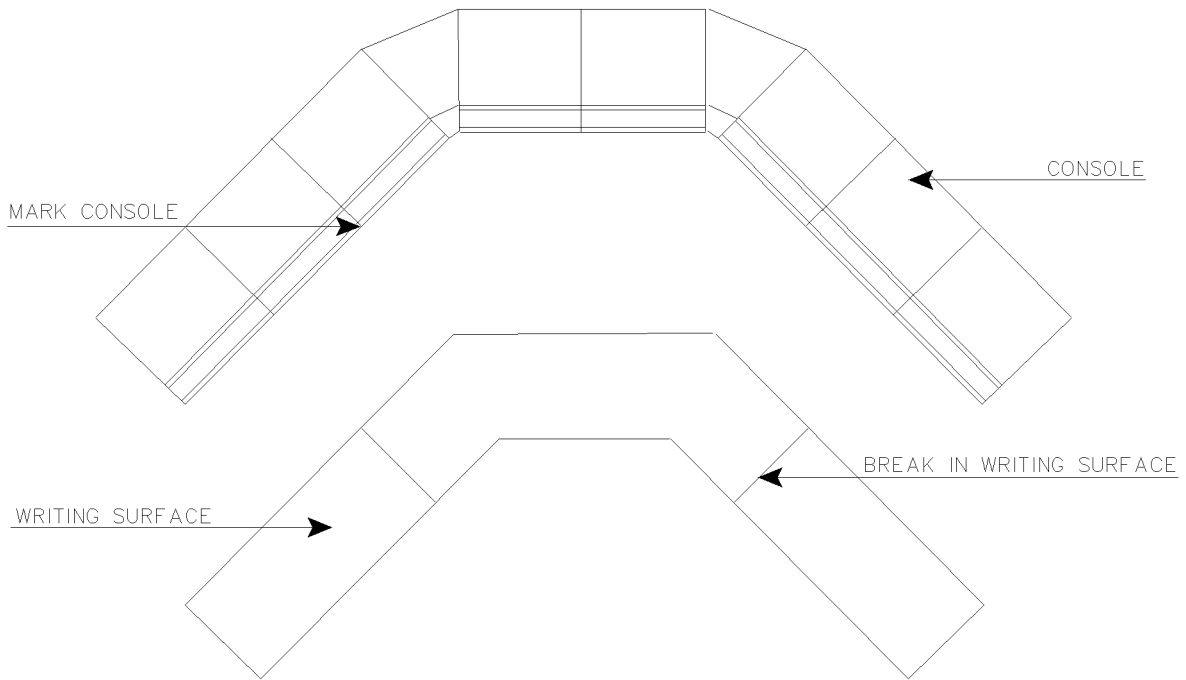

Figure 3-4 FORMICA SURFACE ARRANGEMENT
1. Locate all writing surface Formica and arrange on the floor in front of console. A typical layout is shown in Figure 3-4. Permanent mounting can be accomplished more easily if the Formica is arranged on the floor directly in line to its mounting position on the console.